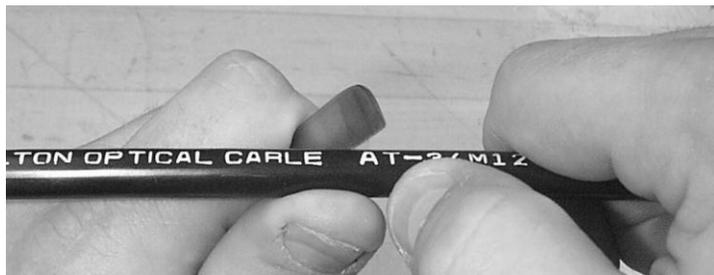

Figure 24 – Ring cut the outer cable jacket.
5.10 Use a cable sheath knife to ring cut the cable at one of the measured marks. Lightly score the outer cable jacket rather than cut all the way through (Figure 24).